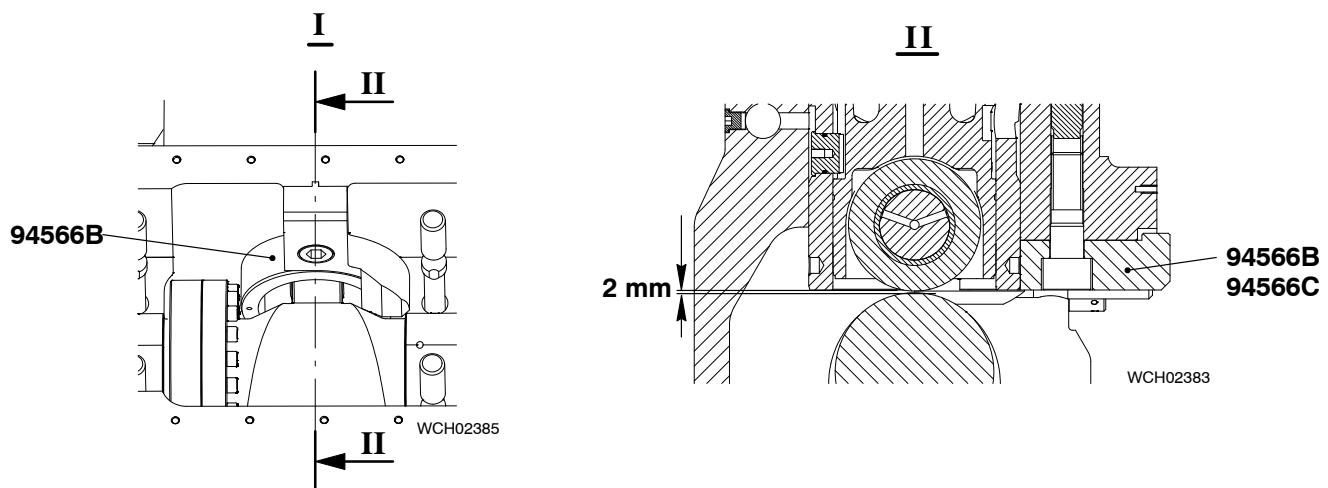

Fig. 2
- 3) Make sure that the bearing covers at positions No. 3, No 4 and No. 5 Fig. 2 and the housing (1), have marks to identify them as a set.